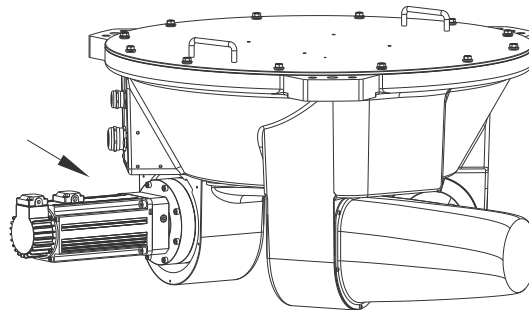

Figure 3-19 Motor cable orientation
Step 5 Replace the motor with a new one. The cable orientation should follow Figure 3-19. First, tighten all four motor fixing screws (M8x25) with a torque of 20 N·m. Next, secure the reducer shaft clamps (M6) using 15 N·m torque. Finally, tighten the top screw of the reducer until it no longer protrudes from the surface. Apply thread locker when tightening screws to ensure proper sealing.